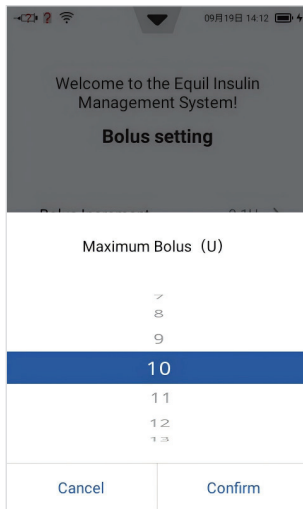

Figure 68
- b) The Maximum Bolus allows you to set an upper limit on the amount of insulin given in a single bolus (Figure 68).